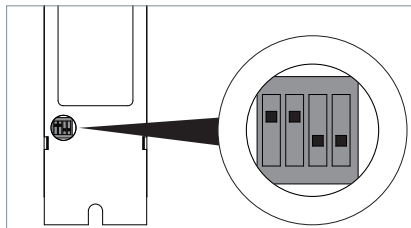

Fig. 26: DIP switch position for the Advanced Group Control function.
- ▶ Set the DIP switches no. 1 and no. 2 to the "ON" position, see Fig. 26.